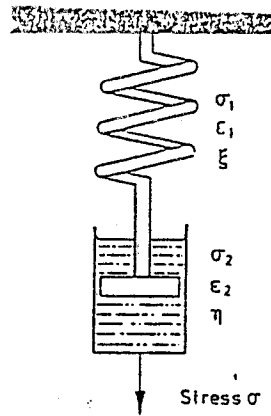

FIGURE 2
- 2(a) Derive the stress-relaxation modulus for the Maxwell model shown in Figure 2.